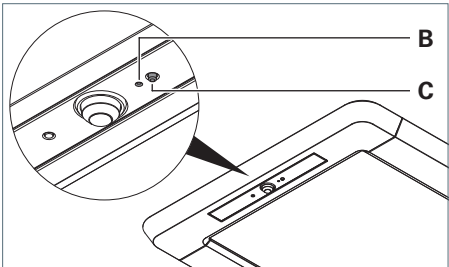
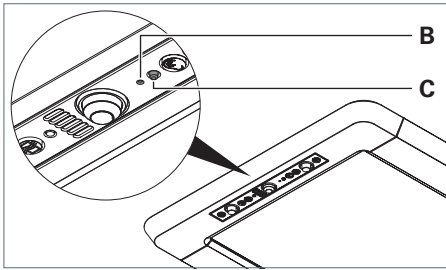

Fig. 19: Assigning the control element, version R.
Fig. 20: Assigning the control element, version RX.
- Press the key in the opening **B** with the end of opened paper clip, see Fig. 19 and see Fig. 20.
- Press the key **C**, see Fig. 19 and see Fig. 20.
- Press the key **C** and keep this key pressed, see Fig. 19 and see Fig. 20.